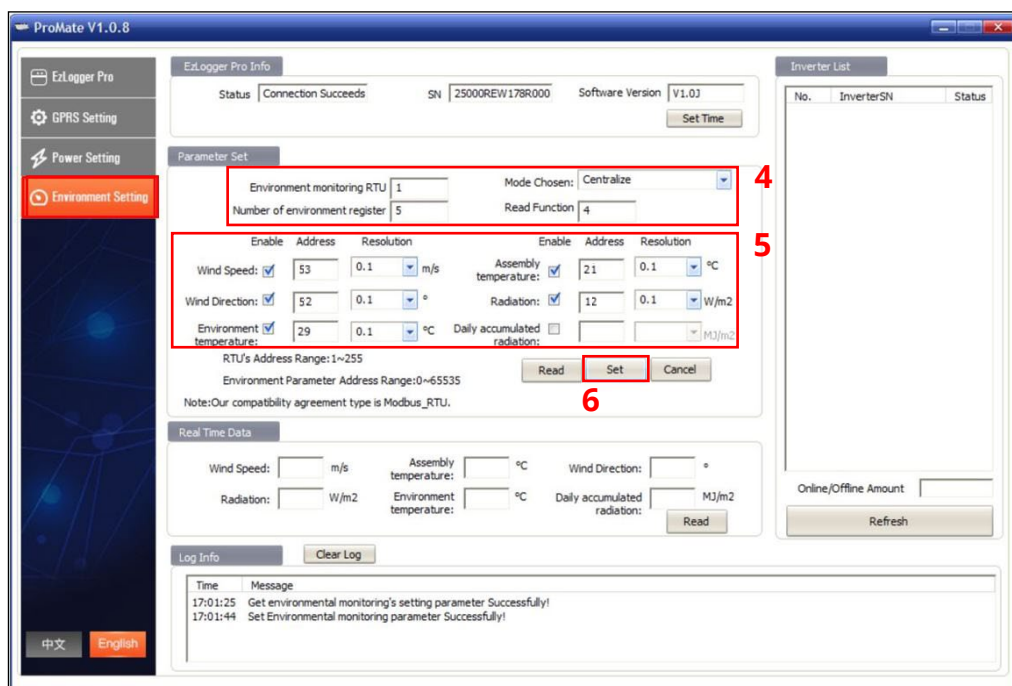

Figure 4: Seven Sensor Box Configuration Settings
Step 5 : According to the Sensor Box register map* as shown in Figure 4, enter the register addresses and select the resolution of the selected data.